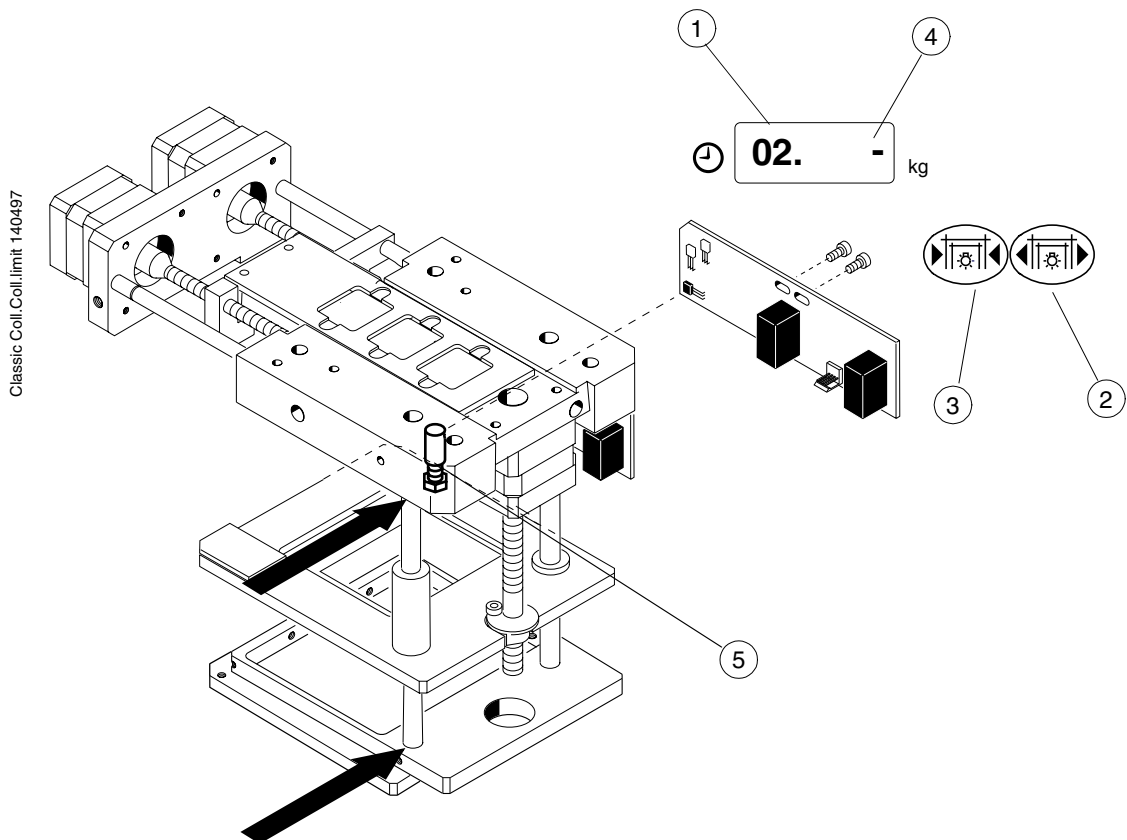

Figure F.21
- a) Enter the service mode and select the display of internal signals mode 02 (Fig. F.21, 1).
- b) Pressing the filed/light keys (Fig. F.21, 2,3) drive the moving collimator to the hall-sensor and check that the indicator LED on the COLLIMATOR PCB lights as well as the right middle signal (Fig. F.21, 4) on the display.
The collimator worm-screw nut may not hit the collimator lower frame or stick to the beginning of the worm-screw (arrows). To prevent this adjust the collimator magnet holder (Fig. F.21, 5) in up/down direction. The final adjustment of the collimator positions is performed according to instructions described in chapter F, section 4.3.